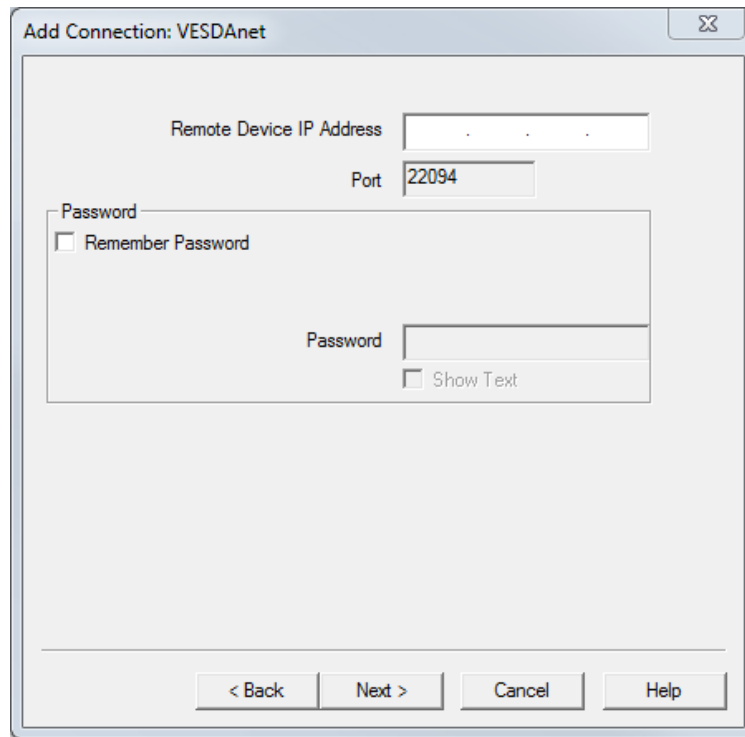

Figure 5-6: Enter IP Address
2. Enter the IP address which is used to access the detector. Optionally tick the checkbox next to "Remember Password" and then enter the password that has been configured in the detector configuration General Options for Ethernet and WiFi connection. (See section 5.5.1) (Figure 5-6).